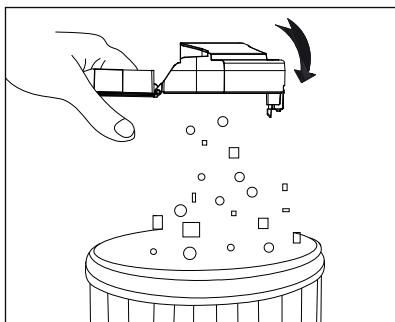

Fig. 9
- 3) Empty the contents of the dust container 14 into a waste container (see Fig. 9).